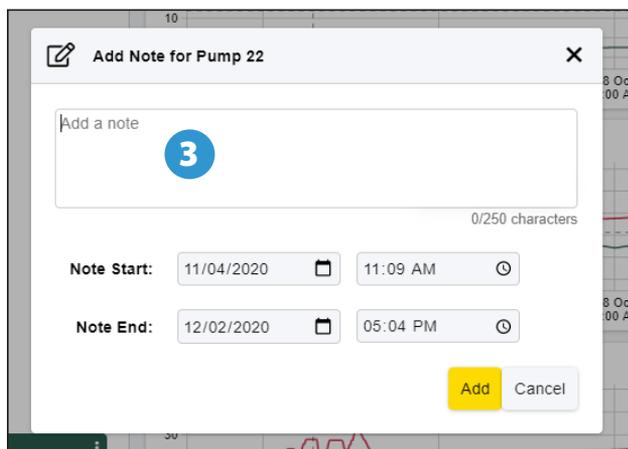

Figure 14c
- 3 A pop-up menu is displayed to add a note. The default **Note Start** and **Note End** dates and times are based on activity line range at the top of the page (see figure 14c).